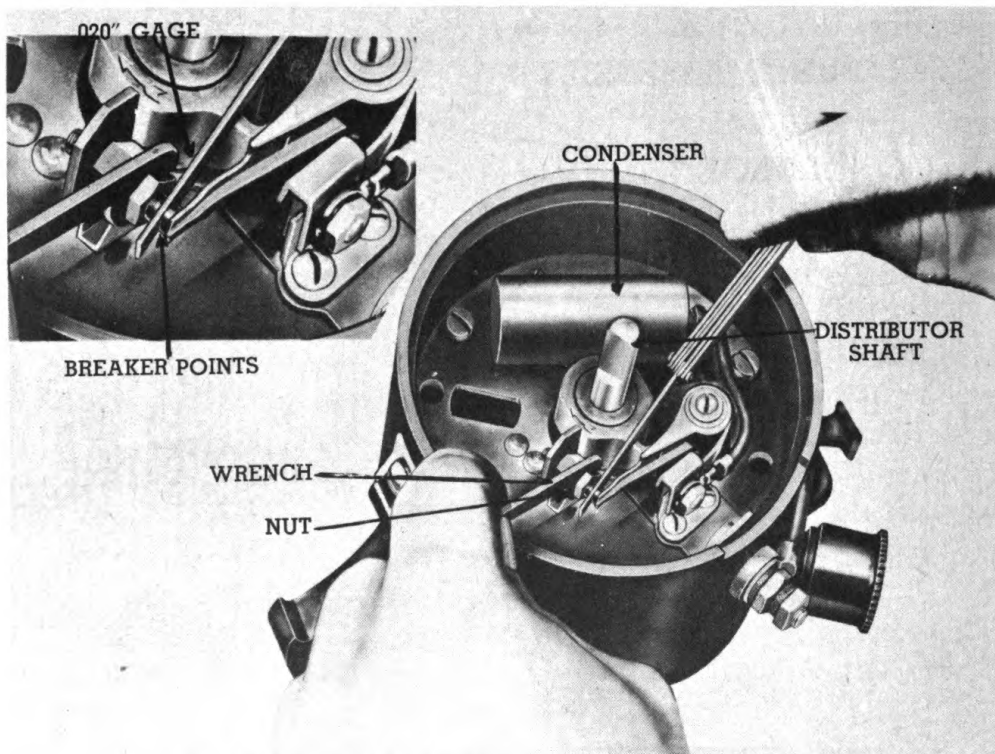

Figure 126—Breaker Point Adjustment
b. The breaker points can be adjusted with a feeler gage, but the points must be dressed so that they are clean and make flat contact with each other. Rotate the distributor shaft so that the breaker point rubbing block is on the high point of the cam; loosen lock nut (figure 126); turn ignition point screw with wrench clockwise to open gap, and counterclockwise to close gap. Adjust point gap with feeler gage to .020 inch. Tighten lock nut.